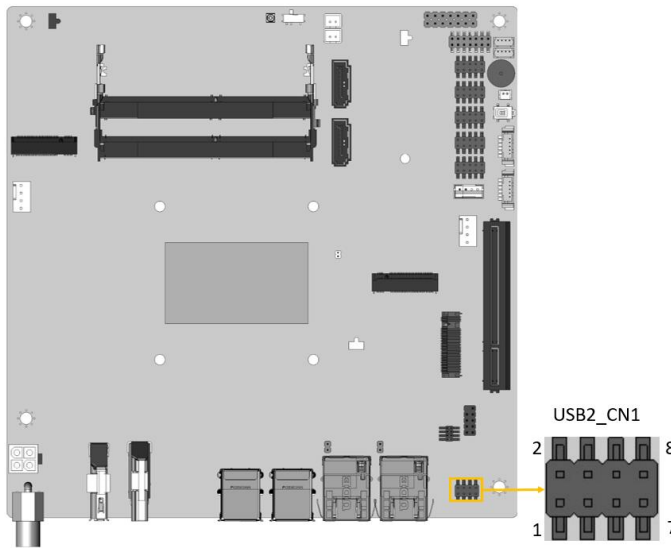

Figure 3-25: Internal USB 2.0 Connector Location
- CN Location:** See **Figure 3-25**